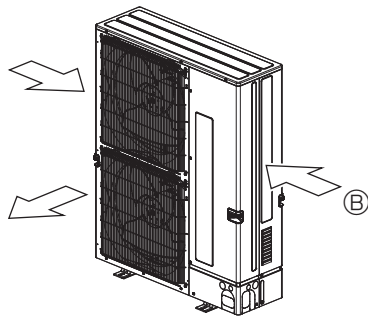

Fig. 2-6
③ Position the unit so that the air outlet blows perpendicularly to the seasonal wind direction, if possible. (Fig. 2-6)